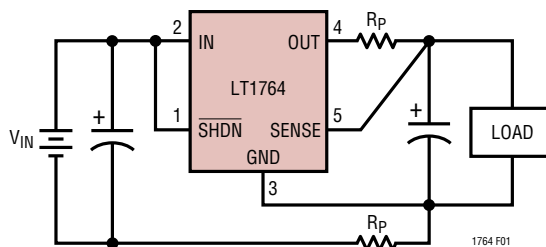

Figure 1. Kelvin Sense Connection
**SENSE (Pin 5/Pin 6):** Sense. For fixed voltage versions of the LT1764 (LT1764-1.8/LT1764-2.5/LT1764-3.3), the SENSE pin is the input to the error amplifier. Optimum regulation will be obtained at the point where the SENSE pin is connected to the OUT pin of the regulator. In critical applications, small voltage drops are caused by the resistance ( $R_P$ ) of PC traces between the regulator and the load. These may be eliminated by connecting the SENSE pin to the output at the load as shown in Figure 1 (Kelvin Sense Connection). Note that the voltage drop across the external PC traces will add to the dropout voltage of the regulator. The SENSE pin bias current is 600 $\mu\text{A}$  at the nominal rated output voltage. The SENSE pin can be pulled below ground (as in a dual supply system where the regulator load is returned to a negative supply) and still allow the device to start and operate.